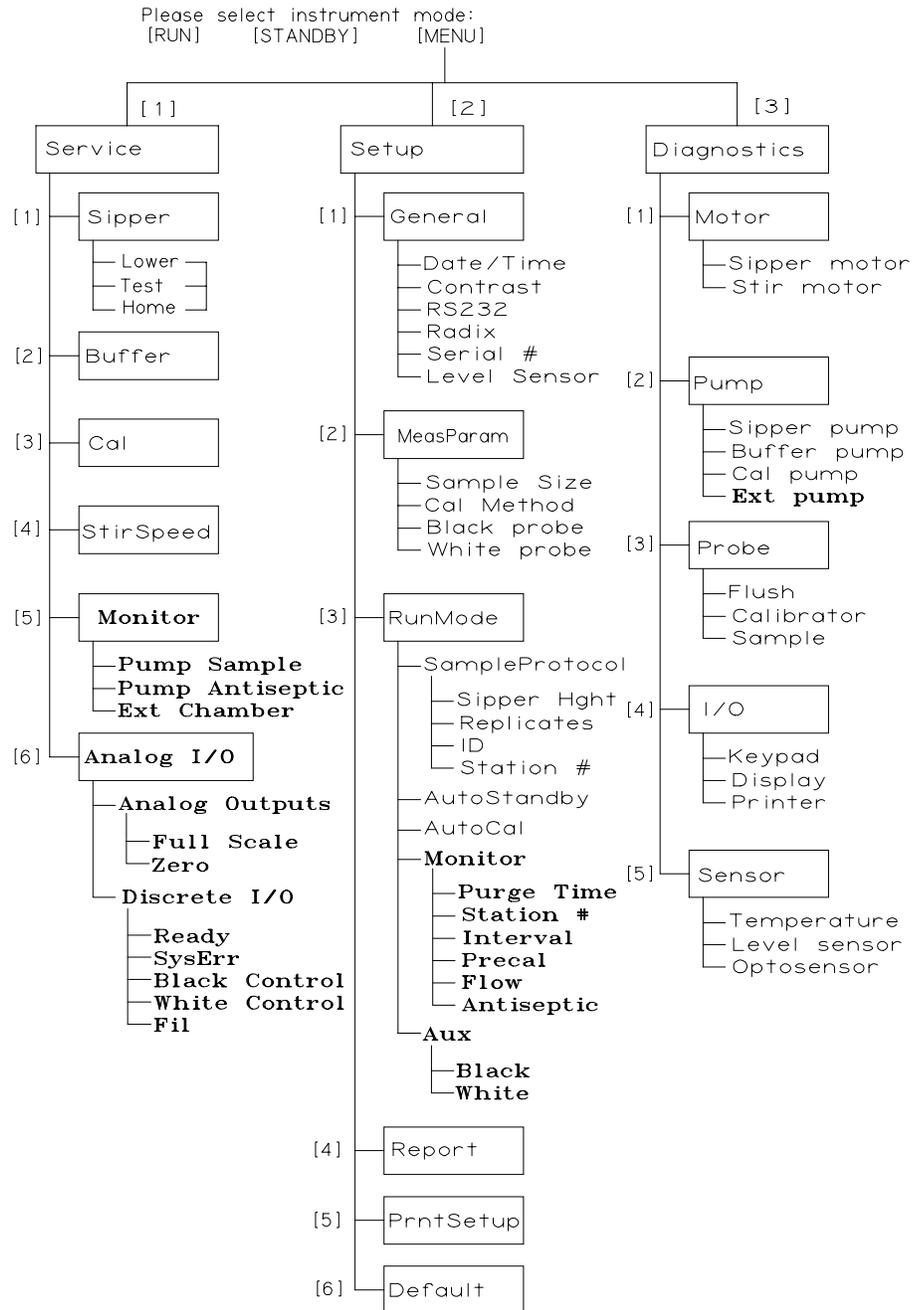

Figure 9 Software Flow Chart
22. Activating monitoring software. Refer to Software Flow Chart (Figure 9). Press the MENU key, then choose 2-Setup, then 3-RunMode, then 4-Monitor. Six selections are shown. Set the Monitor default parameters to those shown below, confirming each by pressing the ENTER key. You may change parameters later to fit your application.
Features specific to the YSI 2730 have been added to the **Setup** and **Service** sections of the 2700 menu structure. Figure 9 shows the new structure with the 2730 features in bold lettering. The following section briefly describes the 2730 menu options.